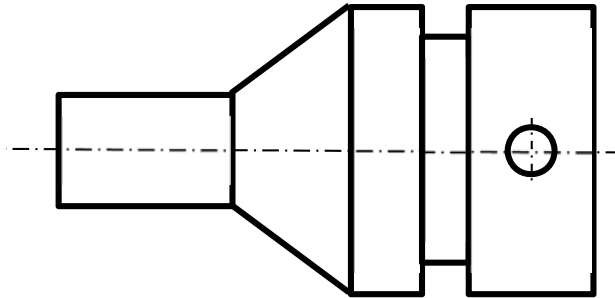

Figure Q2: Schematics of the part to be manufactured
- B. A manufacturing company received an order to manufacture 1000 pieces of aluminum alloy part as shown in Figure Q2. The initial shape of the raw material is cylinder (round bar/rod). There are multiple options of manufacturing processes that can be applied to manufacture the part. Among the options are: (i) casting and (ii) machining (turning + drilling). If sustainability is the main consideration, suggest which process the company should choose. Justify your suggestion by giving at least four (4) reasons related to the sustainability aspects.